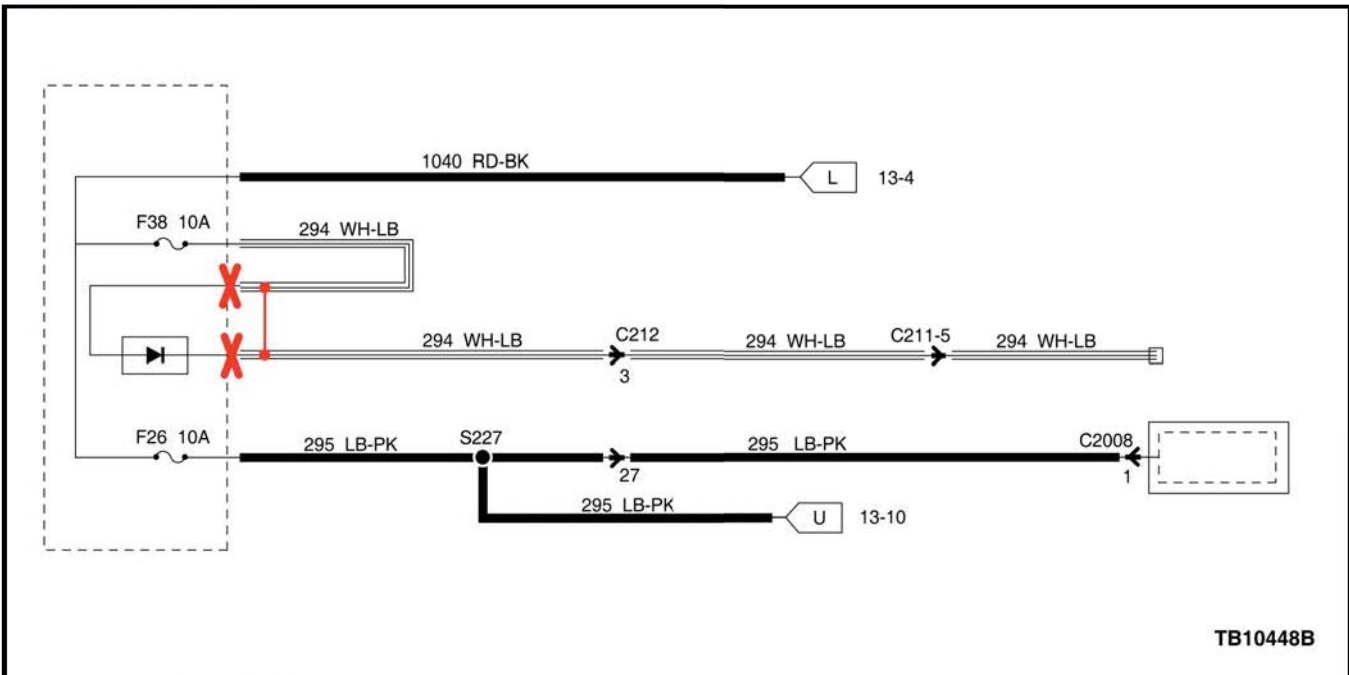

Figure 2 - Article 13-9-1
- e. Splice circuit 294 from fuse 38 to circuit 294 harness side and seal with heat shrink tube. Refer to Wiring Diagram, Section 5-6. (Figure 2)